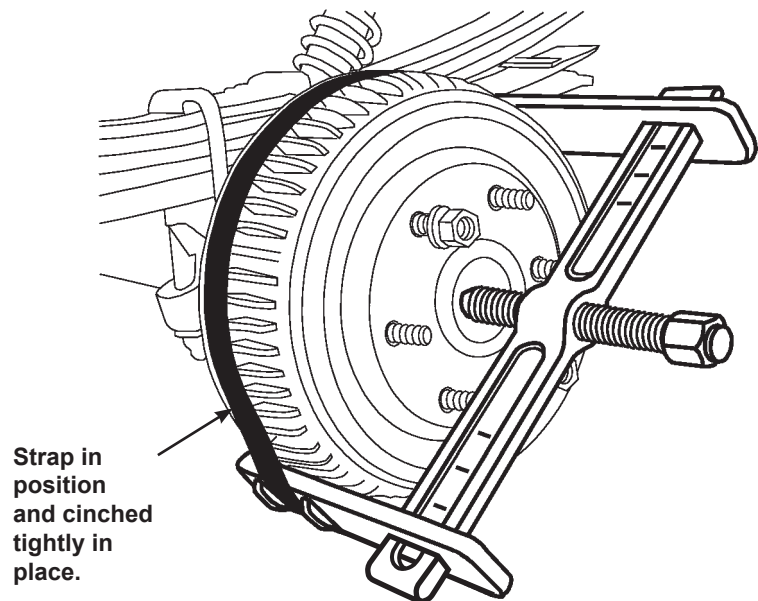

Figure 2
6. Place the strap (provided) over the puller and brake drum. Position it around the outer edge of the drum and within the tabs of the jaws. Cinch the strap tightly in place. See Figure 2.